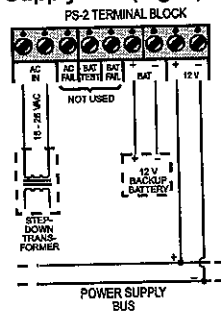

Figure 4. Direct Connection to the Bus
B. Direct Connection to the Power Supply Bus (Fig. 4)